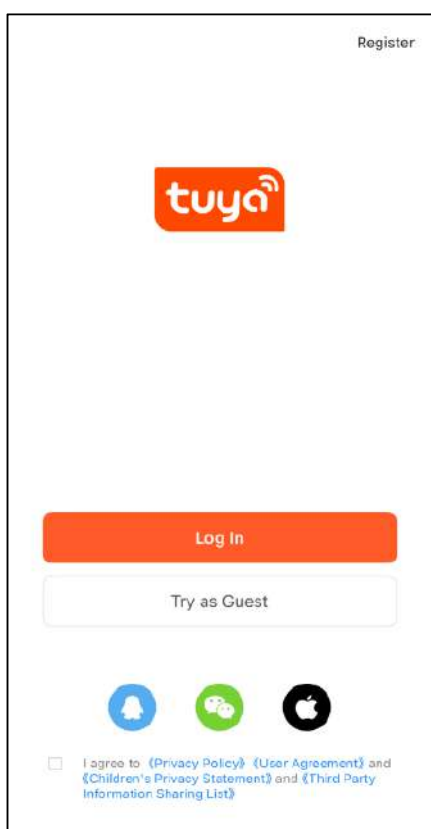
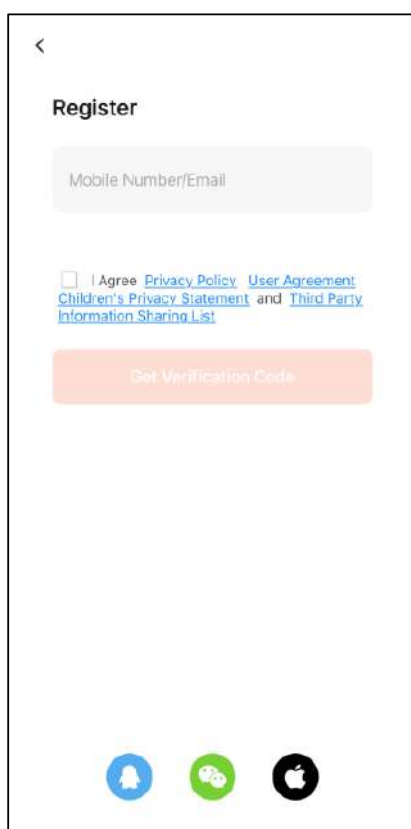
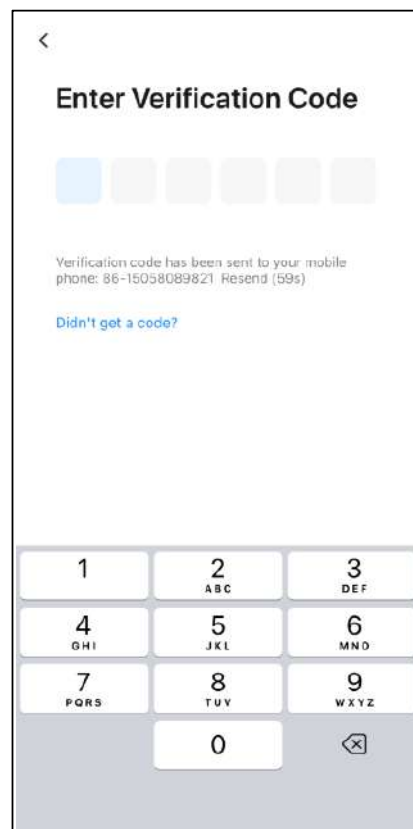
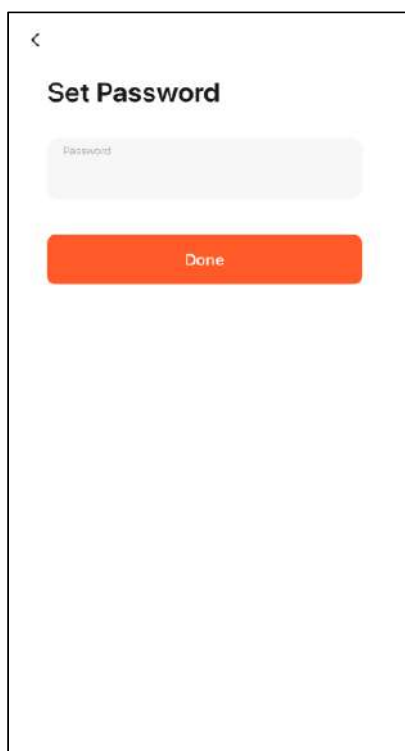

FIG.1
FIG.2
FIG.3
FIG.4
1. Create an account and log in. (FIG.1, FIG.2, FIG.3, FIG.4)